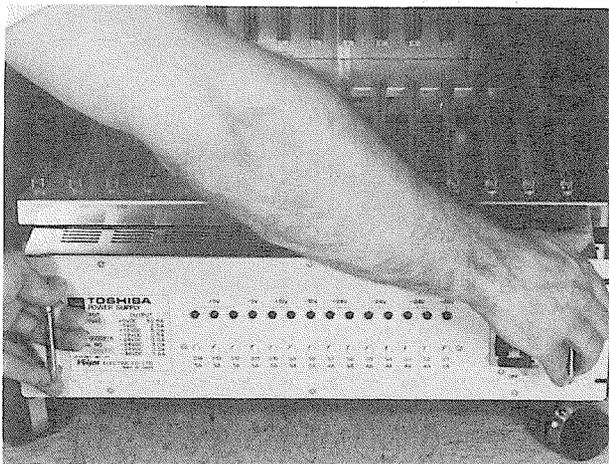

FIGURE 14—SLIDING DPSA INTO PLACE
- f) Slide the DPSA in from the front of the DCEC (Figure 14). Take care that the AC power cord passes through the rear opening and that the ground wire is not caught behind the unit.